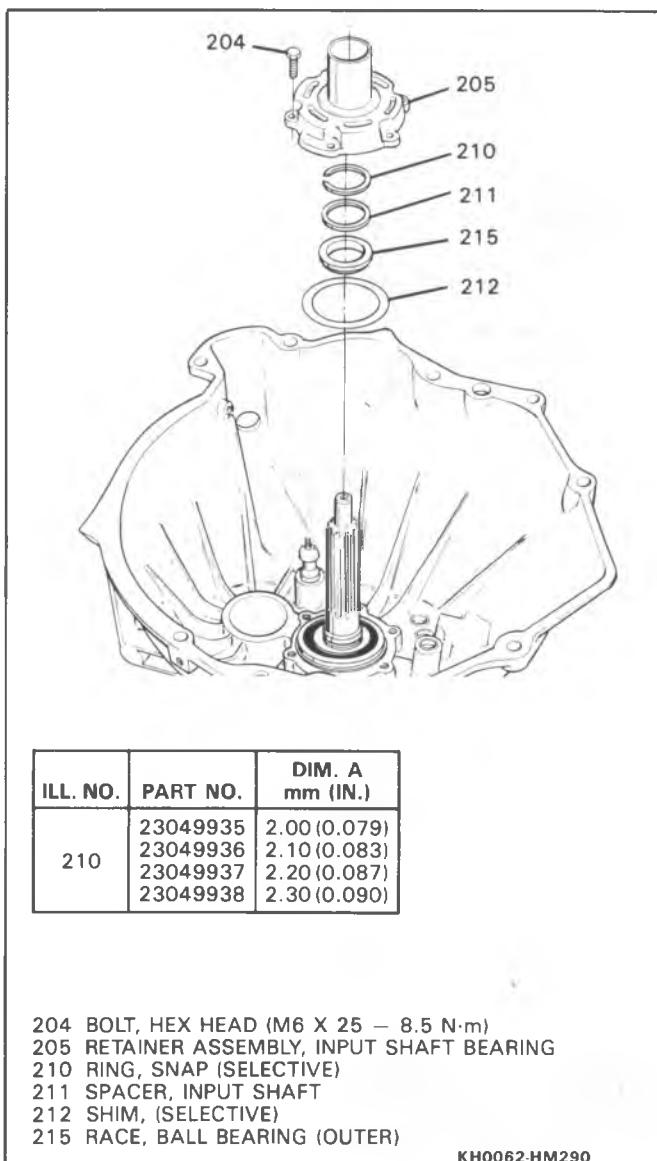

Figure 89 Input Shaft Bearing Retainer Assembly
- Bring housing straight down. If resistance is felt at about 7mm (1/4 in.) then the roller(s) (218) or (203) are cocked, repeat steps 29,30 and 31. DO NOT FORCE DOWN THE HOUSING.
- 38. Two dowels (321).
- 39. Bolts (312).
- 40. Ball bearing (outer) race (215), input shaft spacer (211) and NEW selective snap ring (210) (Figure 89).